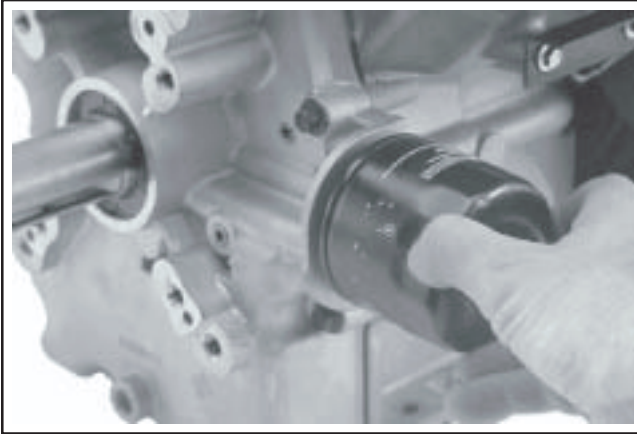

Figure 11-121. Installing Oil Filter.
3. Install the new oil filter to the filter adapter. Turn the oil filter clockwise until the rubber gasket contacts the surface, then tighten the filter an additional 2/3-1 turn. See Figure 11-121.